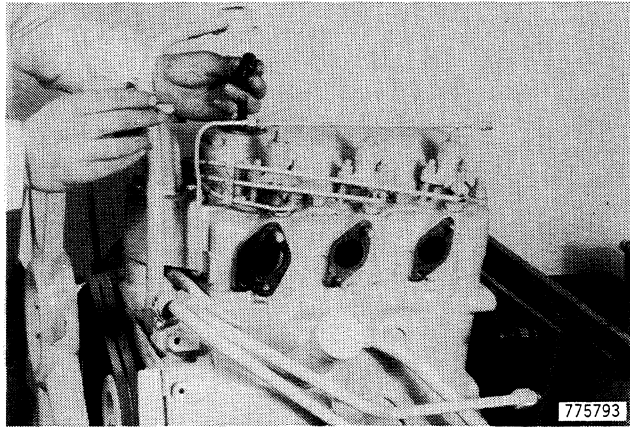

Figure 47
22. Remove the vent tube, spacer and gasket from the valve cover, Figure 47.